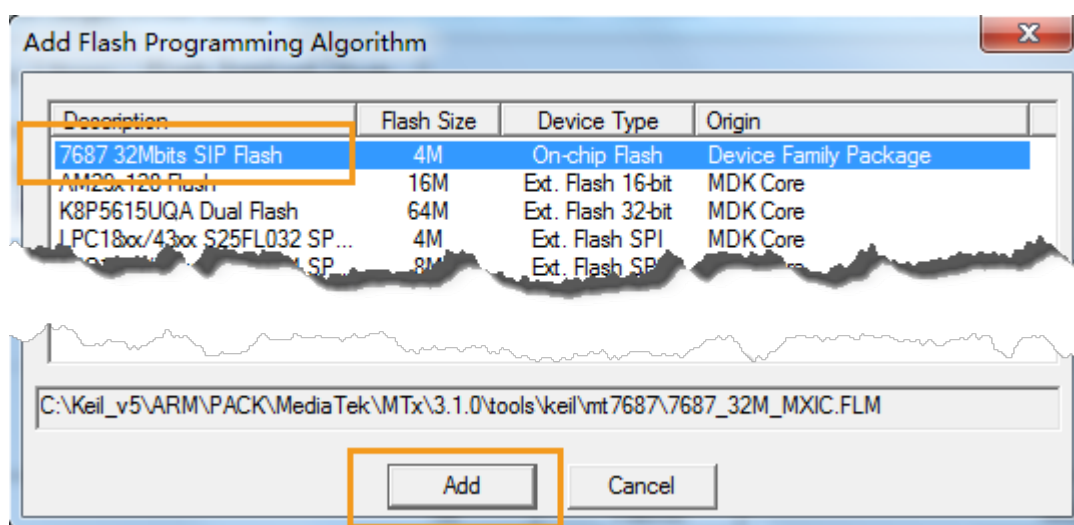

Figure 51. Add device flash programming algorithm
- 7) Click **Add** to switch to **Add Flash Programming Algorithm**, then select the **7687 32Mbits SIP Flash** and click **Add** (see Figure 51).